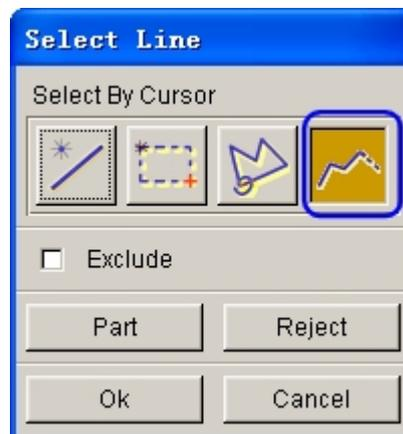

Figure 5.7 Select line
4. The SELECT LINE dialog box illustrated in Figure 5.7 is displayed.